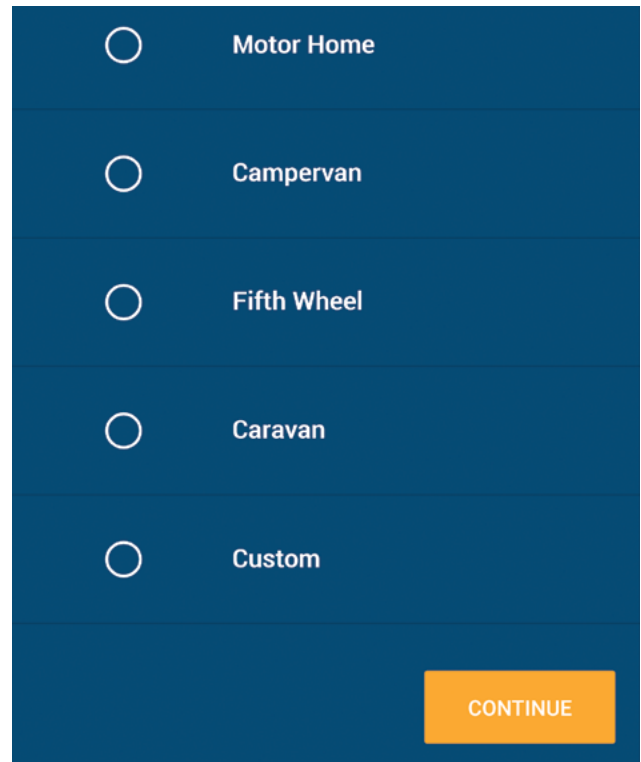

Fig.10
9. Select a vehicle class (Fig.10) then tap CONTINUE.